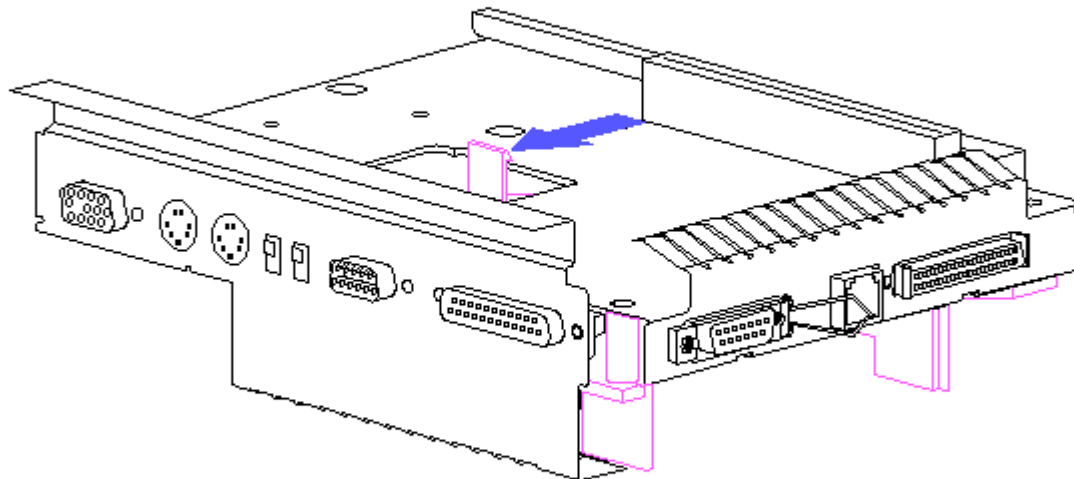

Figure 9-25. Releasing the Battery Charging Compartment Retaining Tab
2. Turn the assembly over and release the plastic retaining tab that attaches the system board to the battery charging compartment (Figure 9-25).